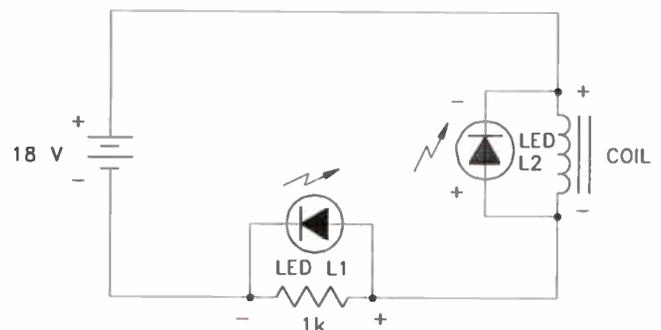
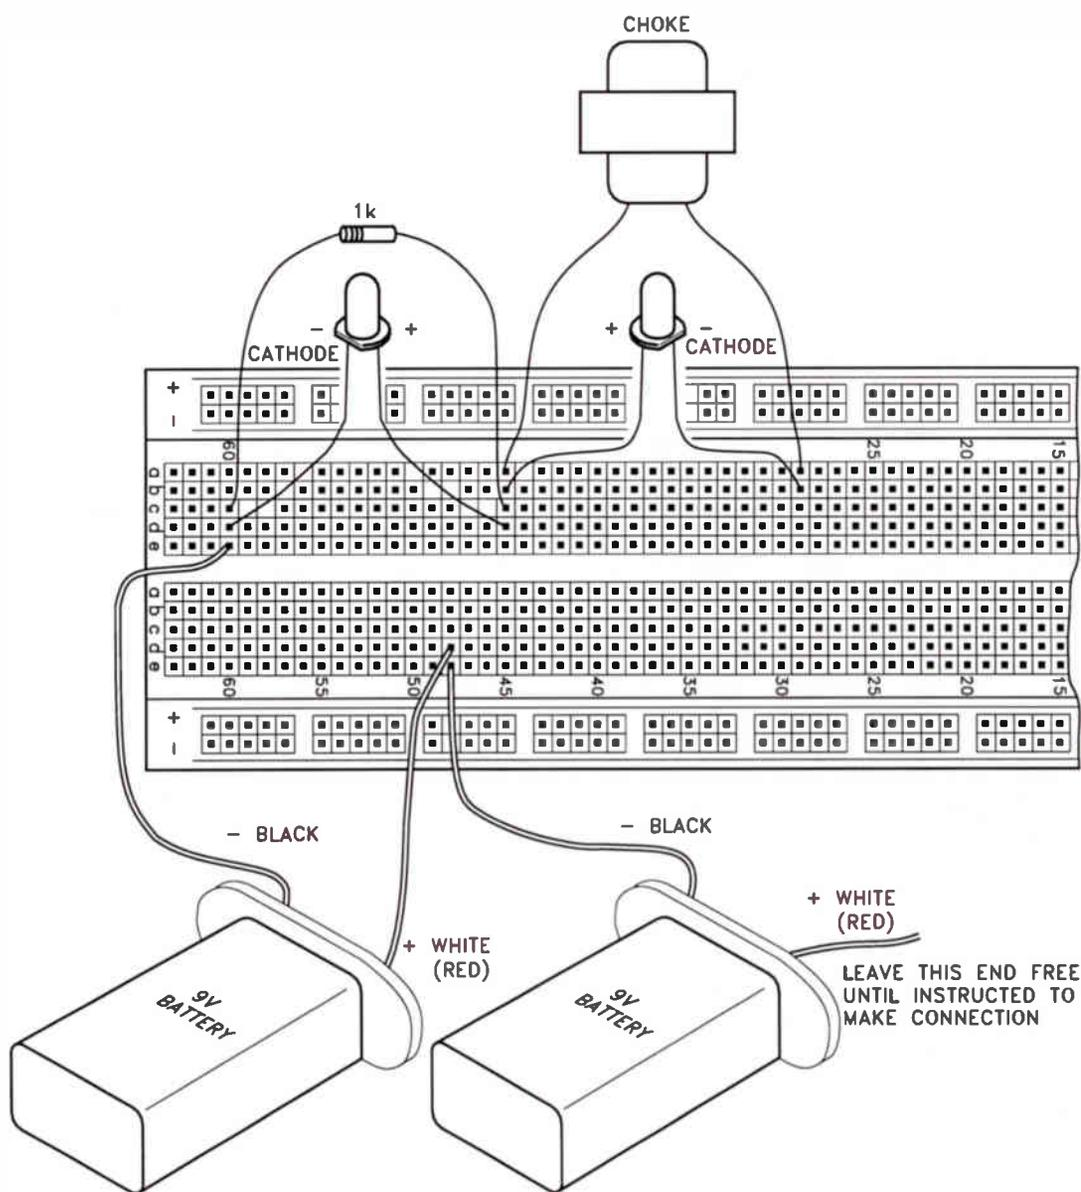

Figure 11-1. Circuit connection to demonstrate counter electromotive force (CEMF).
Figure 11-2. One way to connect components for coil demonstration.
You will want to begin this experiment by constructing the circuit shown in Figure 11-1 without the LEDs. To get the 18 V supply, you'll have to connect two 9-volt batteries in series aiding. Use the diagram in Figure 11-2 if you need help. Be sure to move the red lead of your DMM back to the V socket.
**Step 2.** Disconnect the battery red lead from the coil. Connect the LEDs across the 1k resistor and the coil with the polarity, as shown in the schematic. An LED lights when a negative voltage is applied to the cathode and a positive voltage is applied to the anode. Ensure that the components are installed into the circuit properly, review Figure 11-1 carefully.